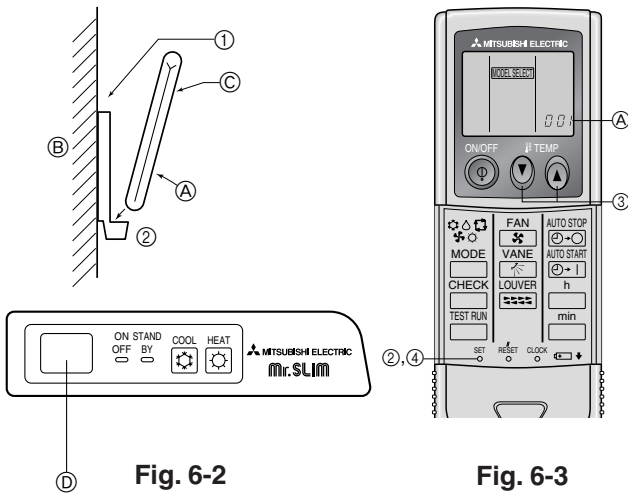
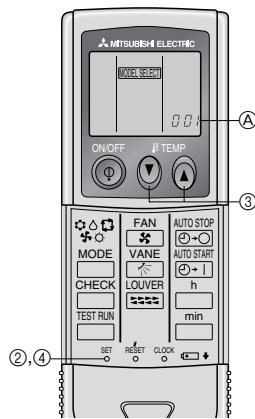

Fig. 6-2
Fig. 6-3
2) Installation method (Fig. 6-2)
- ① Attach the remote controller holder to the desired location using two tapping screws.
- ② Place the lower end of the controller into the holder.
3) Setting (Fig. 6-3)
- ① Insert batteries.
- ② Press the SET button with something sharp at the end.